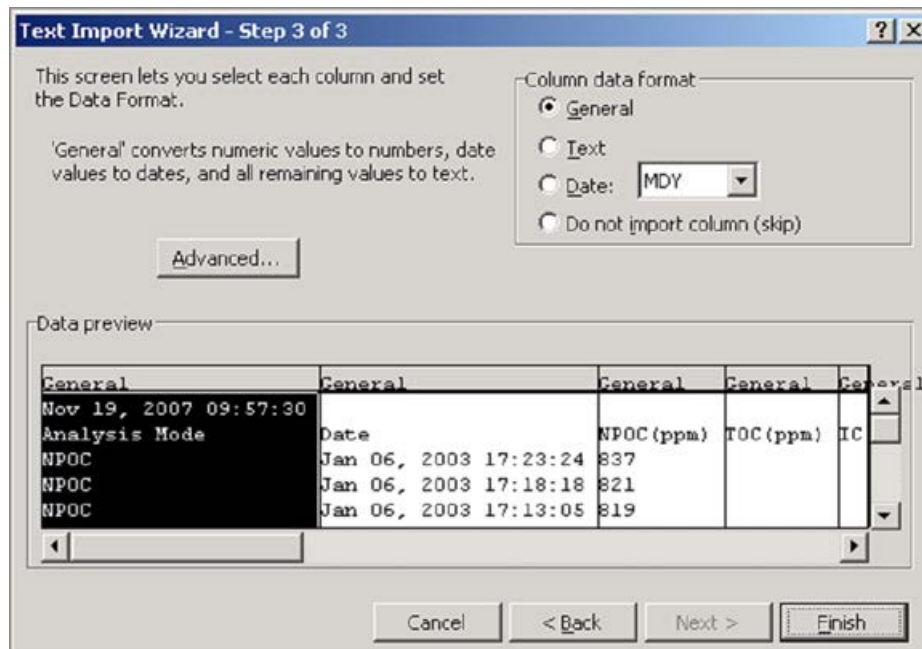

Figure 133: Microsoft Excel Spreadsheet Program — Text Import Wizard - Step 3
- The screen displays a preview of the data that will be imported. If desired, you can select a column and assign a **Column data format** (see Figure 133). Click **Finish** to continue.